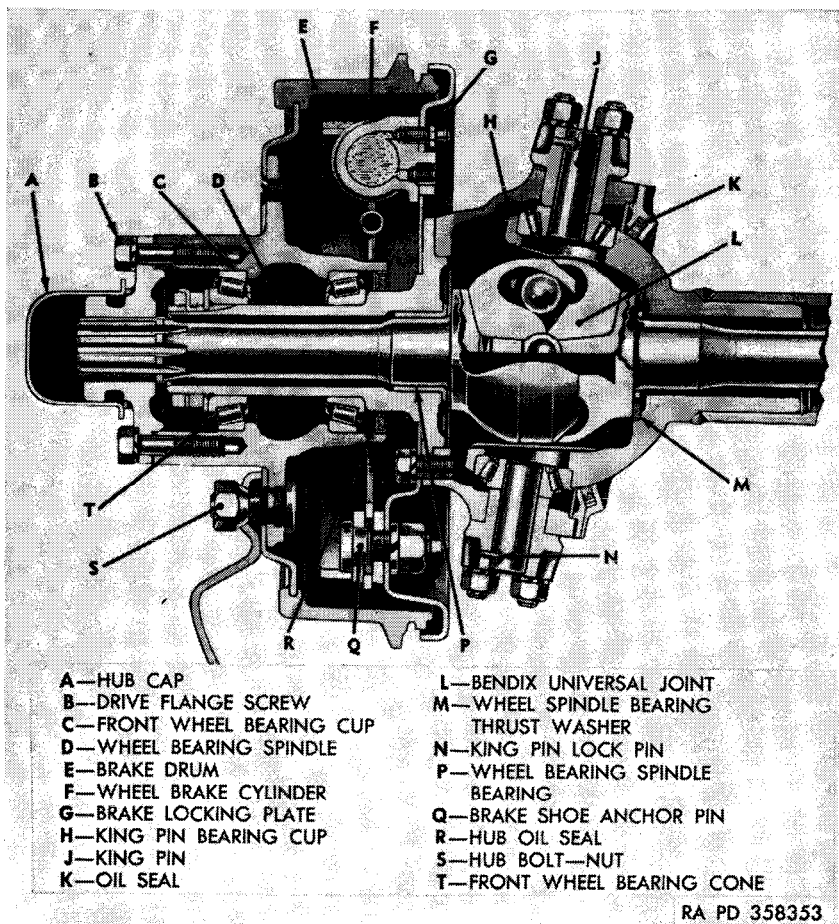
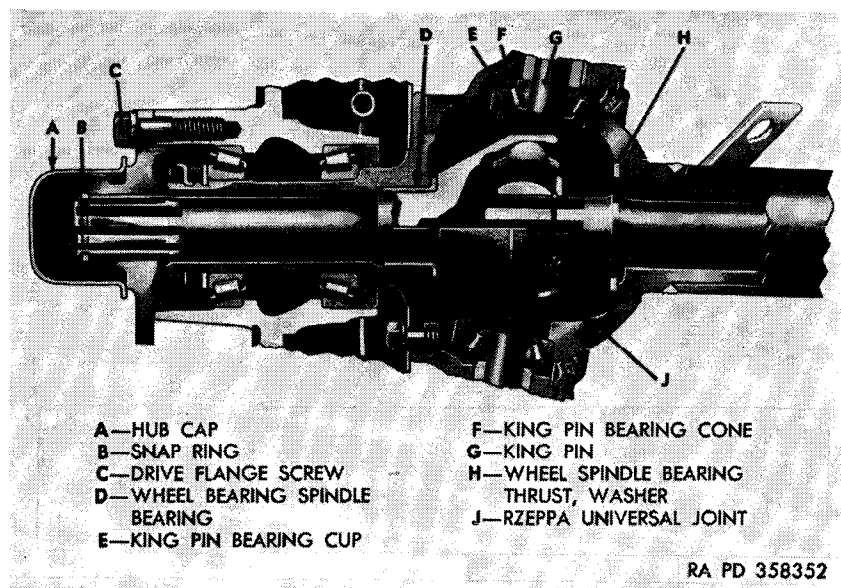

Figure 52. Front axle with Bendix universal joint.
Figure 53. From axle with Rzeppa universal joint.
a. General. Two type of universal joints have been used in the axle shafts on this vehicle: Bendix (fig. 52) and Rzeppa (fig. 53). The basic function is identical with minor differences given in *b* and *c* below. Axles using the different type universal joints are readily identified by a tag attached to the spindle housing.
b. Bendix (fig. 52). The end play of the Bendix joint and the axle shaft is predetermined in manufacture by the position and flange thickness of the wheel bearing spindle bearing (P) and the wheel spindle bearing thrust washer (M). These parts are so positioned, and of the correct thickness, to provide a satisfactory end play of the axle shaft and also to allow the center point of the universal
c. Rzeppa (fig. 53). The end play of the Rzeppa joint axle shaft is also predetermined in manufacture by the position and thickness of the wheel bearing spindle bearing (D) and by using a snap ring (B) at the outer end of the axle shaft. The wheel spindle bearing thrust washer (H) is not effective for use with the Rzeppa shaft, but is placed in all gear carrier housing tubes so that both types of axle shafts may be used. The snap ring (B) and wheel bearing spindle (D) are so positioned, and of the correct thickness, to provide a